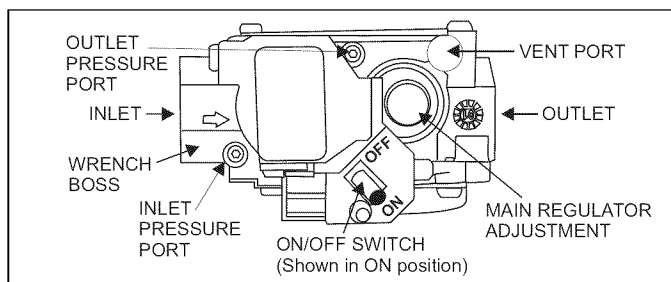

FIGURE 36: Gas Valve
5. Refer to Figure 36 for location of pressure regulator adjustment cap and adjustment screw on main gas valve.